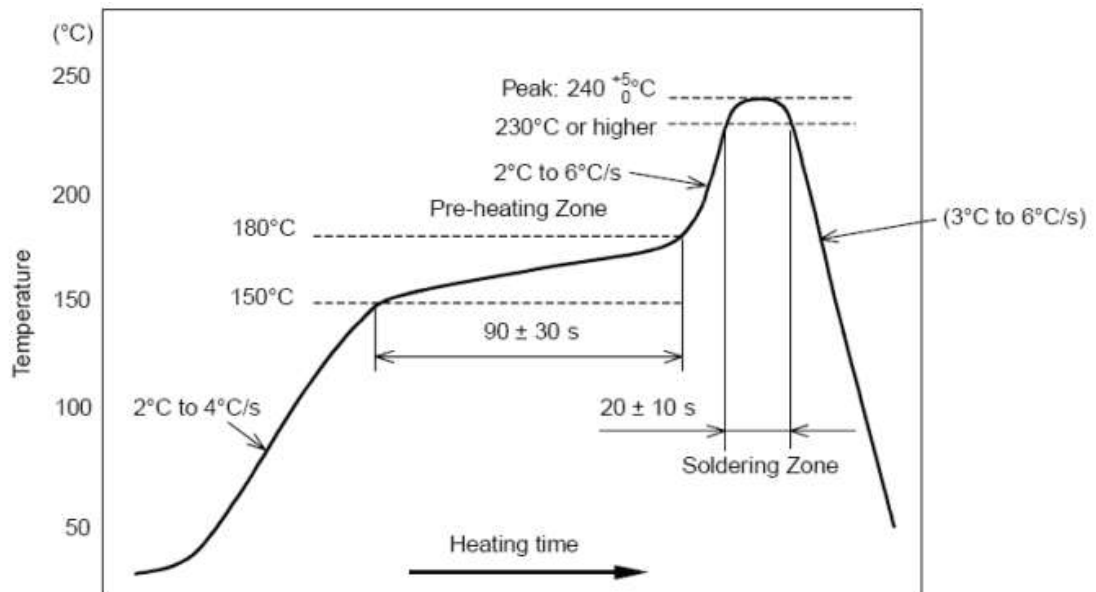

Figure 5. Temperature Curve of Soldering Heat Resistance (at Soldering Point)
2. Maximum 2 times of reflow soldering are allowed, based on the following reflow soldering profile (see figure 5);
- 3 Temperature profile: Reflow soldering shall be done following the temperature profile below (see figure 5);